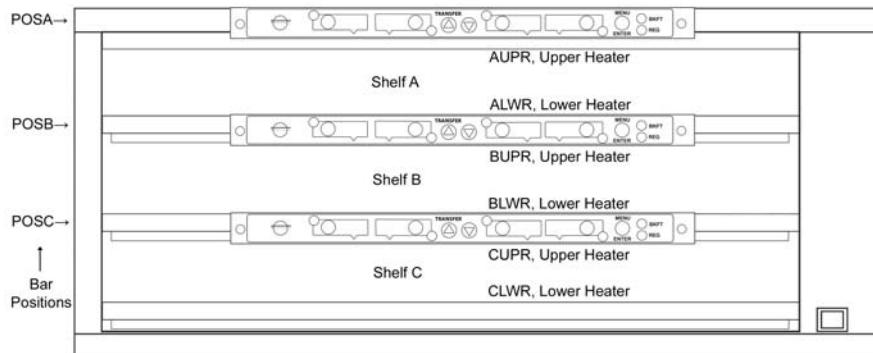

Figure 1
The bin heater temperature display and control have been incorporated into the POSA Main time bar of the Popeye's DHB3PT-41 bin. This bin has three Main timer bars on the front. Figure 1 shows the default bar positions POSA, POSB, and POSC. Refer to the Timer Bar Positions below. The timer bar set for position POSA control the bin heaters. The timer bars for positions POSB and POSC do not have heater control.
4. Use the Up and Down Arrow buttons to scroll to the heater to adjust. The display will cycle through heaters AUPR, ALWR, BUPR, CUPR and CLWR> See Figure 1 above for shelf and heater locations.